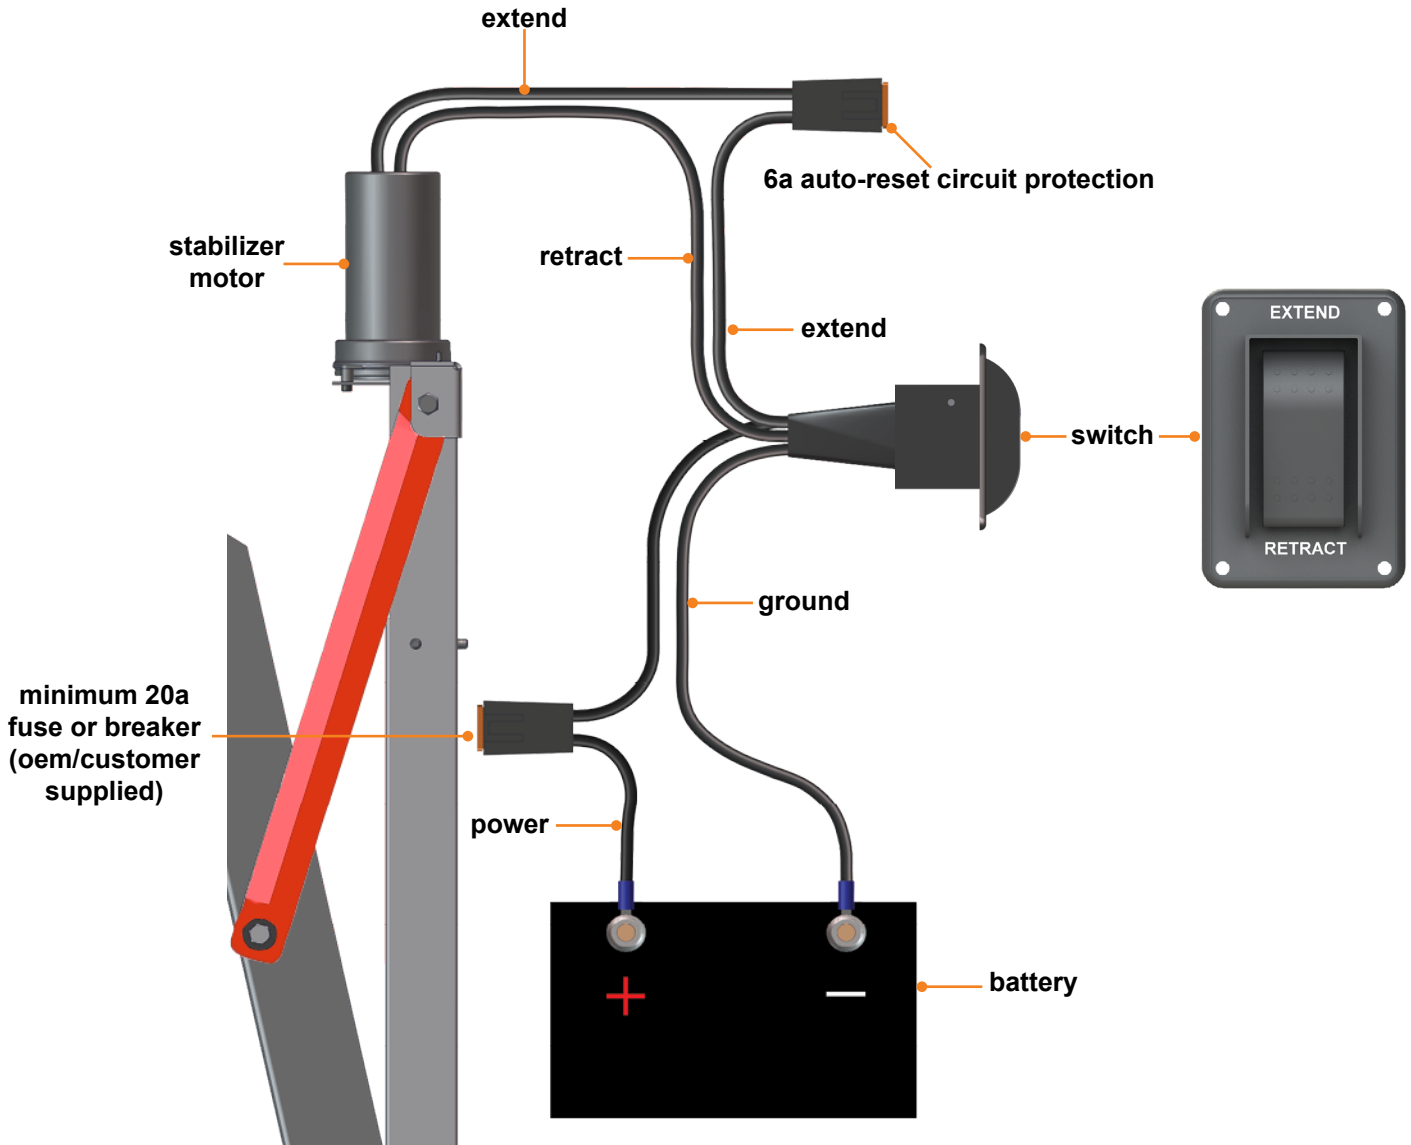

Fig.3 Wiring Diagram
7. The supplied 6A auto-reset circuit protection must be wired inline between the switch and the stabilizer motor (Fig. 3).
NOTE: A maximum 6A auto-reset circuit protection is required between the switch and the motor (Fig. 3).